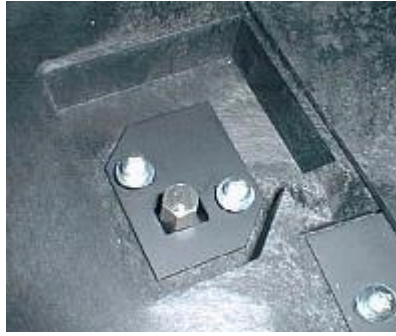

Figure 147 Screwing down the plates
8. Secure the plates with the two screws, as shown in Figure 147.